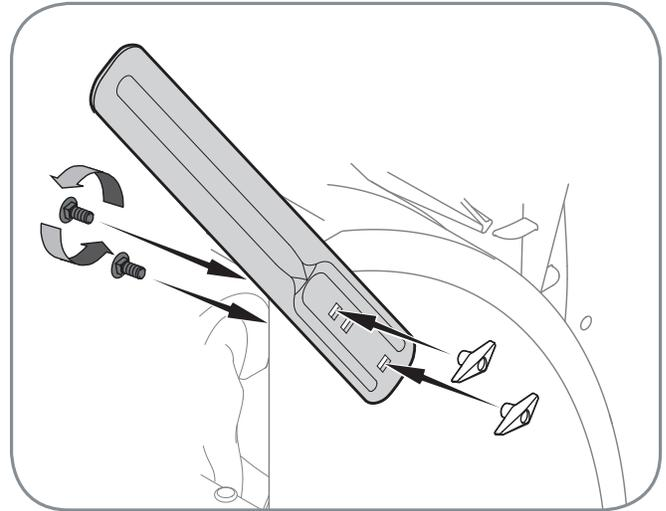

Figure 3-11
- Reposition drift cutters so they face forward as shown in Fig. 3-11. Secure with hardware previously removed, wingnuts should be fastened on the **outside** of the housing as shown.